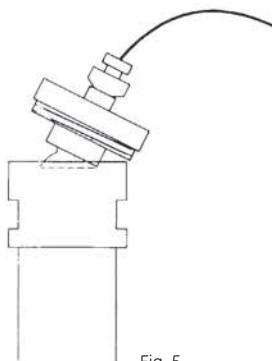

Fig. 5.
12. Wet the bottom piece (or a second adaptor) as described above (3).
13. **Using one adaptor and a bottom piece.** Take up the slack on the O-ring adjusting nut, and tighten one half turn. Screw the bottom piece several turns into the column, making sure that no air bubbles are trapped under the net; see Fig. 5.
Using two adaptors. Insert the second adaptor carefully so that no air bubbles are trapped under the net, as shown for the insertion of the bottom piece in Fig. 5.